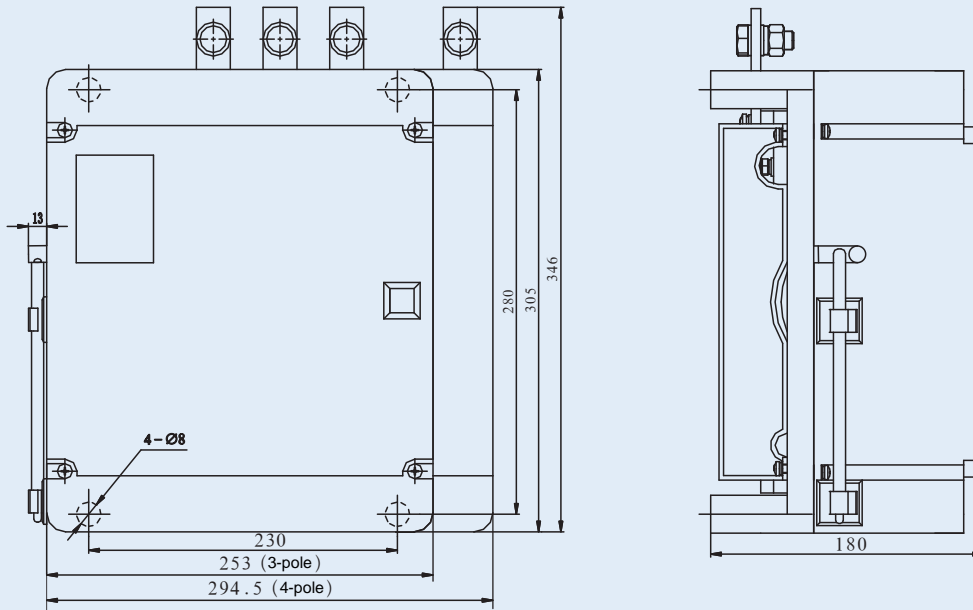

Fig.5
5. Fig. 5 shows overall and installing dimensions of HSQ6-400, the overall and installing dimensions of controller is shown in Fig. 6. (The upper connects the standby power supply and the load, the lower is connected to the power supply.)